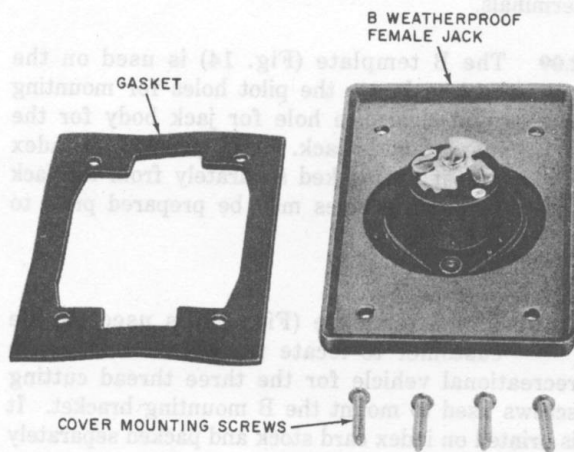

Fig. 10—B Weatherproof Female Jack
- Jack, Female, Weatherproof, B (for use at land pad or dock, Fig. 10 and 11)
2.07 The B weatherproof female jack (Fig. 10 and 11) mounts in the B outlet box located at the trailer service pad or on the dock at the marina. It receives the male plug of the B weatherproof cord. The jack has a spring-loaded hinged cover to make it weatherproof when not in use. Three screw terminals stamped R, T, and GR on the rear of the jack provide connection to ring, tip, and ground.
- One B weatherproof female jack (mounted on post at protector, Fig. 10)
- One B weatherproof female jack (mounted on post on dock or pier to accept other end of cord, Fig. 10 and 11)